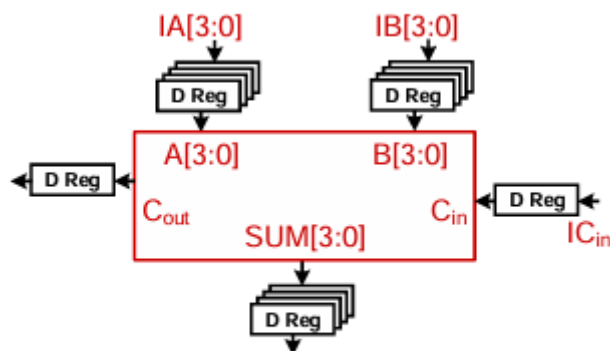

Fig. 4.
(4) Add pipelining stages as shown in Fig. 4 into the 4-bit ripple carry adder, with the D register given in Fig. 3. Run SPICE to find the propagation delay time (with pattern from $IA[3:0] = 4'b0000$, $IB[3:0] = 4'b1111$, $ICin = 1'b0$ to $IA[3:0] = 4'b0000$, $IB[3:0] = 4'b1111$, $ICin = 1'b1$) between pipelining stages to determine the maximum working frequency of the clock.